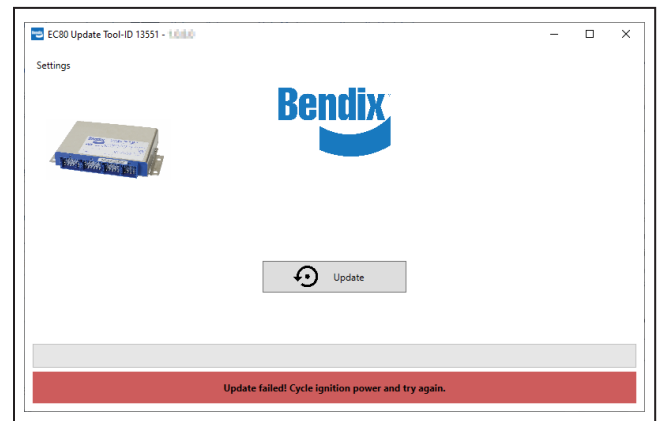

Figure 5 – Download Failed
6. Figure 5 shows the update failed. Power cycle and restart the update procedure from Step 1.